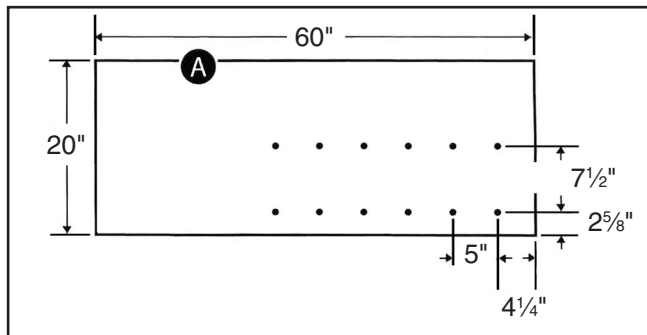

Figure 10. Optional bench dog drilling locations.
21. Should you choose to use the (Z4) bench dogs, drill twelve $\frac{5}{8}$ " (16mm) holes at the shown locations in **Figure 10** in the table top.